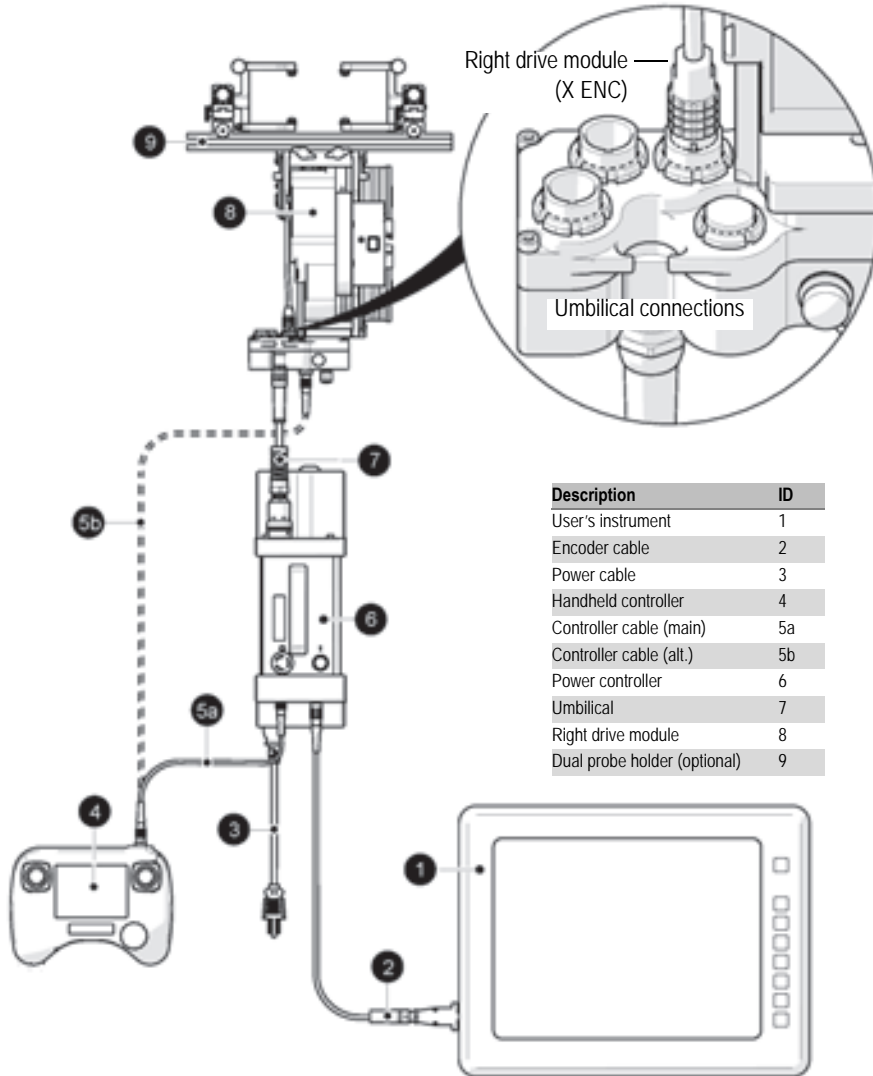

Figure 2-6 Right drive module configuration
2. Mount and connect the umbilical to the right drive module (see Figure 2-6 on page 54).
7. Attach a configured frame bar (see Figure 2-6 on page 54) to the SteerROVER (see “Swivel Mount” on page 95).